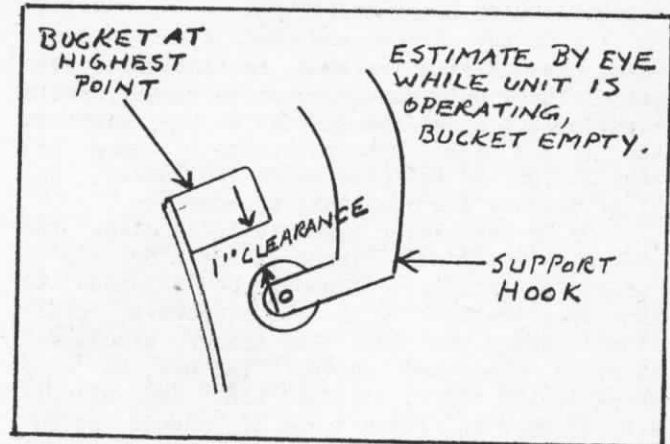

Figure 30. Bucket Adjustment
(1) Cycle unit and watch bucket going up to bucket support hooks. The bucket will pass the hooks and then should drop back on them. At the highest point of travel, the underside of the bucket loading sill where the rollers on the hooks come to rest, should be approximately 1" above the top of the rollers (see Figure 30.)